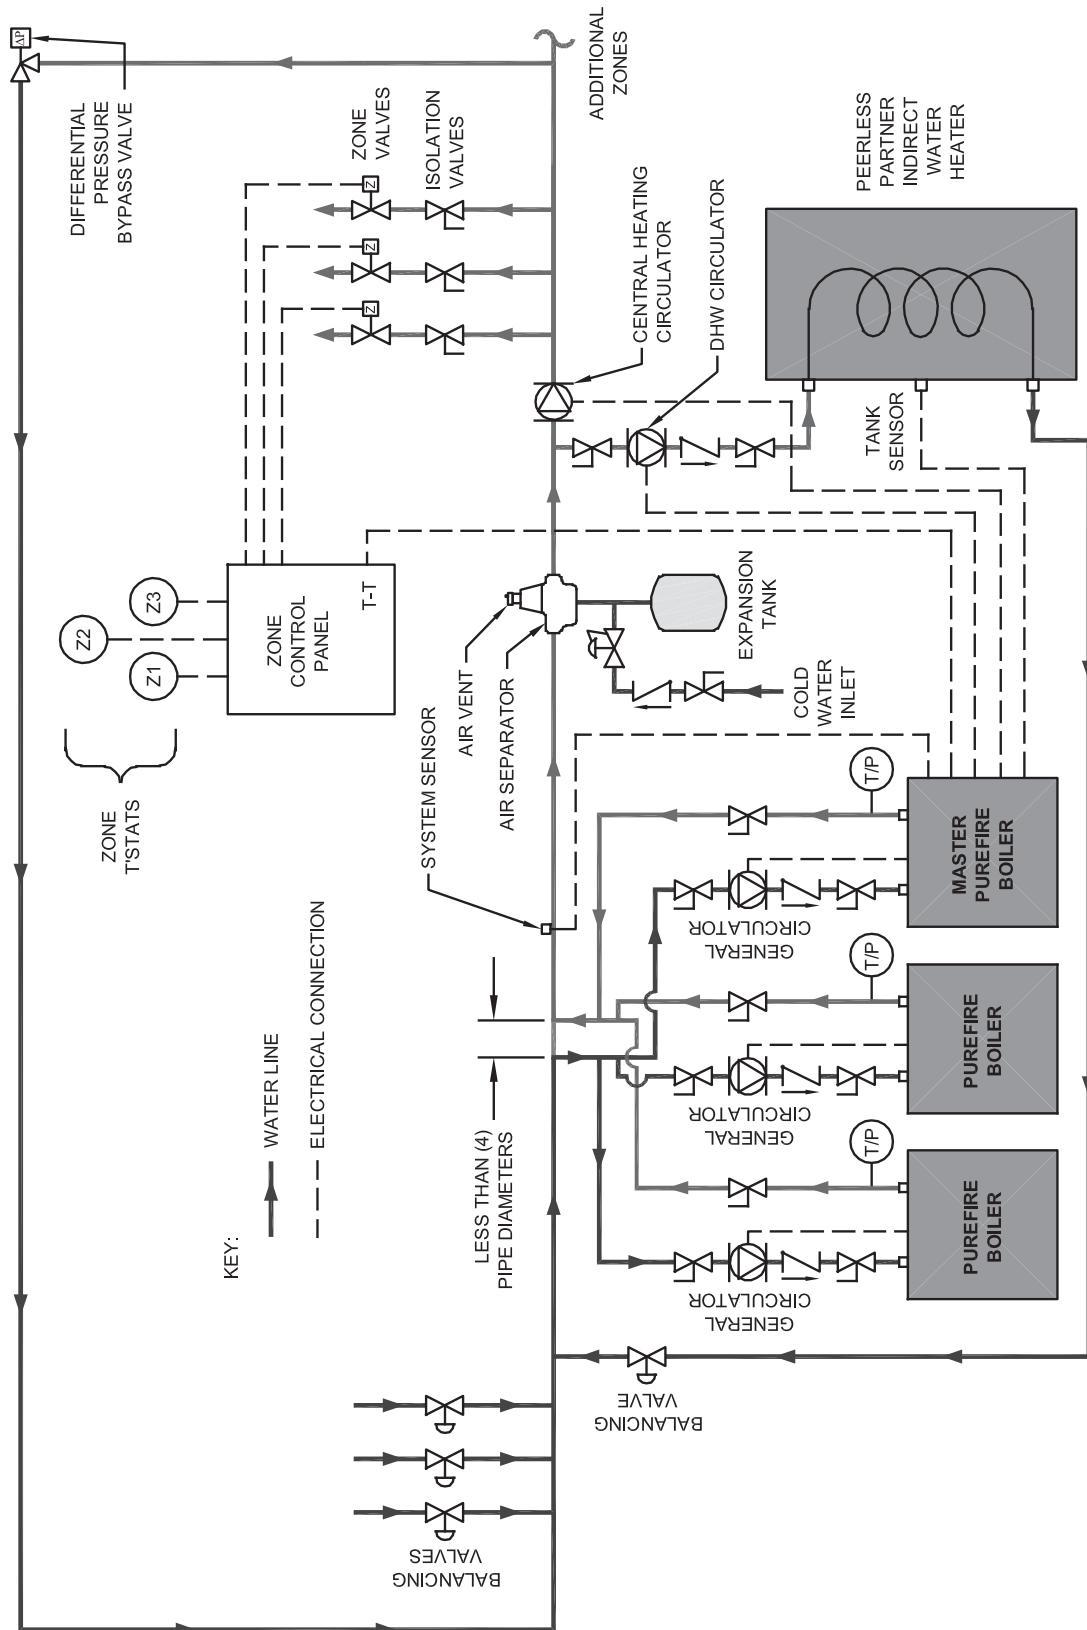

Figure 8.4: Multiple Boiler (Cascade) Piping / Electrical Connections for Systems with Zone Valves
See Figure 8.4 for typical resistance of the boiler sensors.
- PUREFIRE® boiler controls can operate together to control up to 16 boilers for one central heat or domestic hot water demand. Only the addition of a system sensor (54156) is required to provide this operation. The System Sensor must be placed on the Primary loop downstream of the Boiler loop for proper Cascade operation. See Figure 8.4 and 8.5 for examples of System sensor location.
- Figure 8.4 shows a typical system which uses a CH circulator, a DHW circulator and zone valves to distribute the heating load to the building.